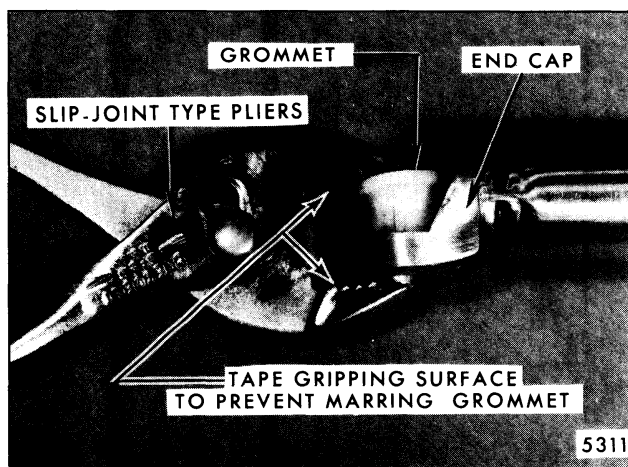

Fig. 7-72-Counterbalance Support Assembly Grommet Replacement
3. Locate new grommet to end cap eyelet and press into position with pliers or similar tool (Fig. 7-72).